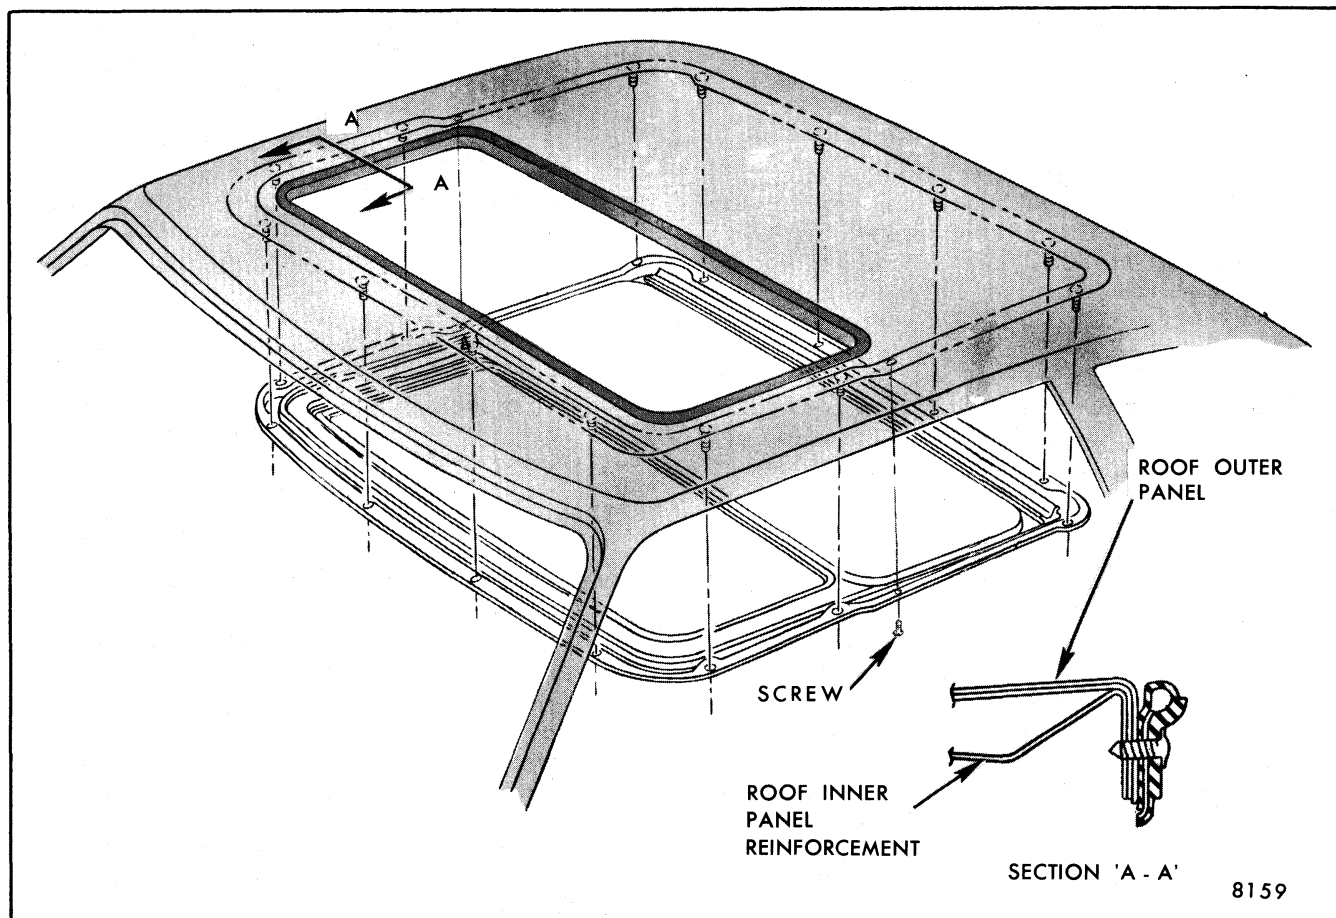

Fig. 8-82-Sun Roof Module (Complete Installation)
The sun roof housing assembly, complete with hardware, may be removed as follows (Fig. 8-82):
6. Support sun roof housing assembly and remove nuts and screws that retain housing to roof inner panel (Fig. 8-82). Lower and remove sun roof housing.